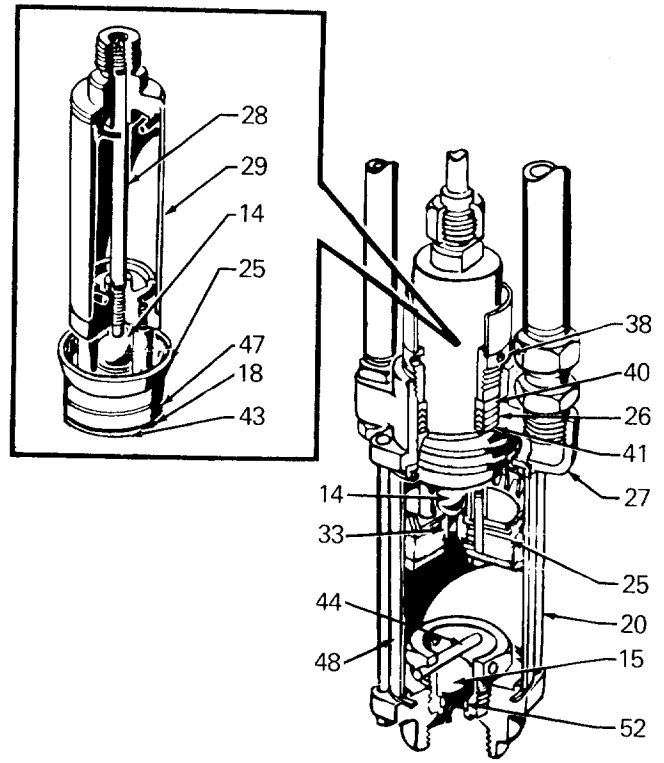

Fig 6
Unscrew the four tie bolts (20) from pump head (27), loosen packing nut (38) and disassemble fluid pump as necessary to correct trouble. See Fig 6.
Lubricate, assemble and install all parts of fluid pump reverse from disassembly. Refer to Fig 6. Install new throat V-packings one at a time and leave packing nut (38) loose until displacement plunger rod (29) is installed. Then tighten just enough to prevent leakage—DO NOT overtighten packing nut.